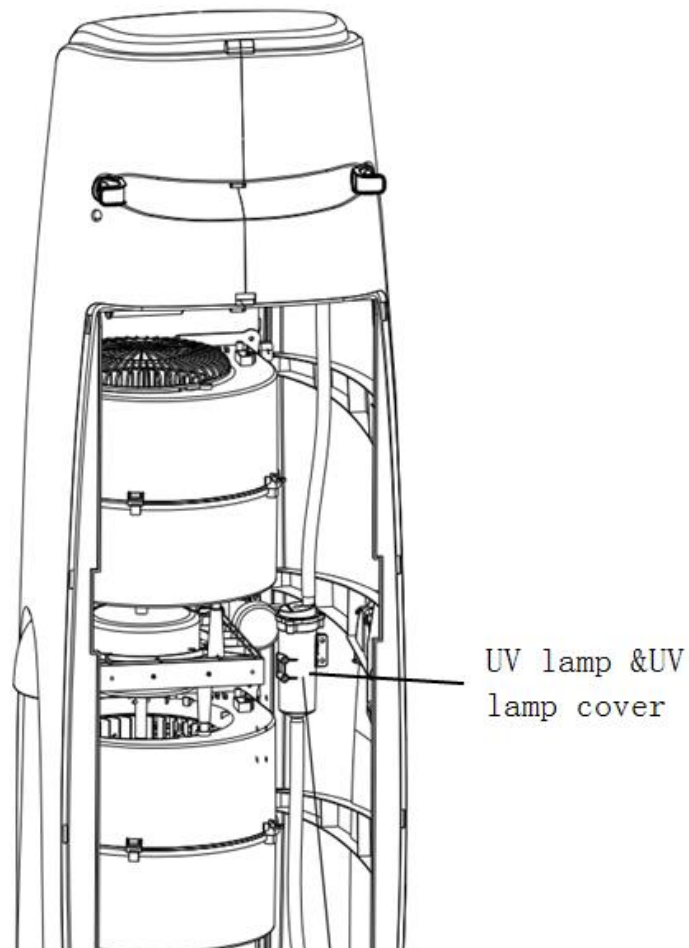

fig.2
- ① **To protect against electric shock, do not remove plug from wall outlet by wet hand.**
- ② **Unplug from outlet while moving the unit.**
- ③ **Insert the plug pin into the wall socket and make sure it is connected well.**
7. Press "ON" button to make the unit ready for working. Press "COOL" button to improve the air damp, avoid skin dry and spall in winter. When press "COOL", the built-in UV lamp start working, the ultraviolet ray can sterilize the water flowing through the UV lamp cover (shown as fig.2).